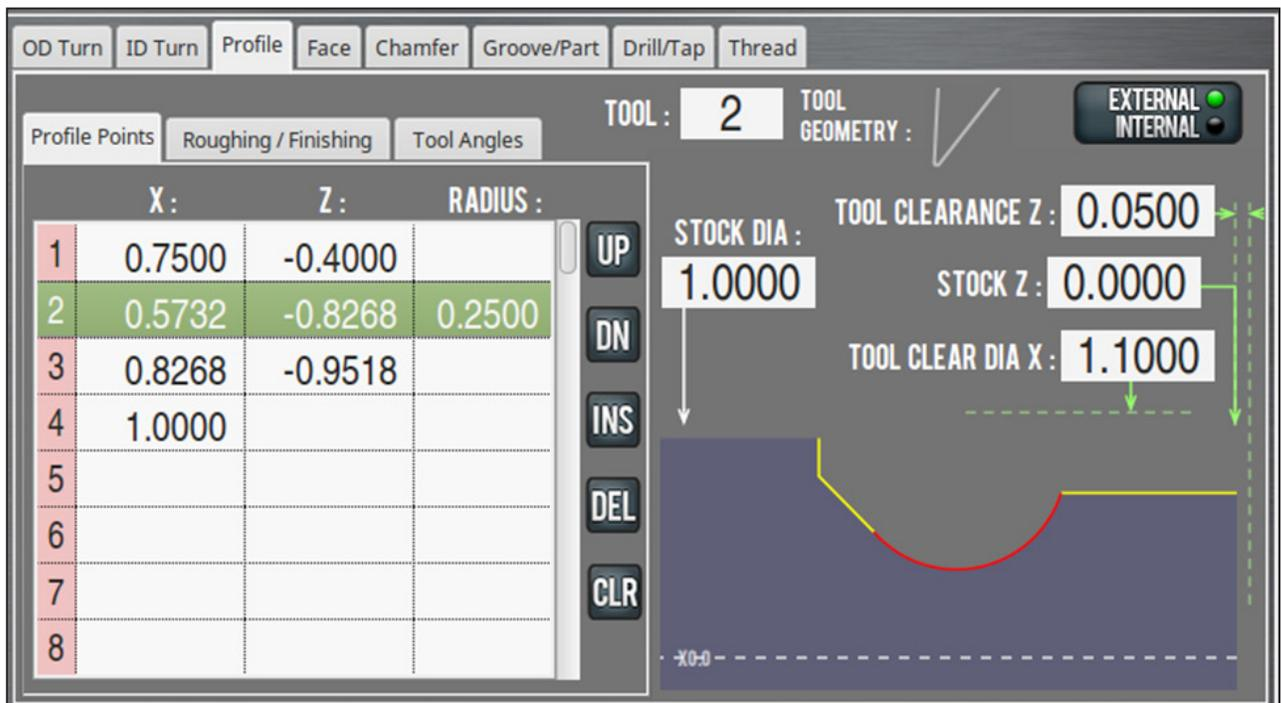

Figure 5.32
- In the *Profile Point* table, type a Radius value to X and Z end points (see **Figure 5.32**).
A red line segment indicates that the geometry of the selected tool cannot cut the programmed angle without gouging the part profile – typically, when feature entry or exit angles are too steep for the tool geometry to clear (see **Figure 5.32**).
For example, in **Figure 5.32**, the back angle of the tool will not clear the entry to the arc feature.